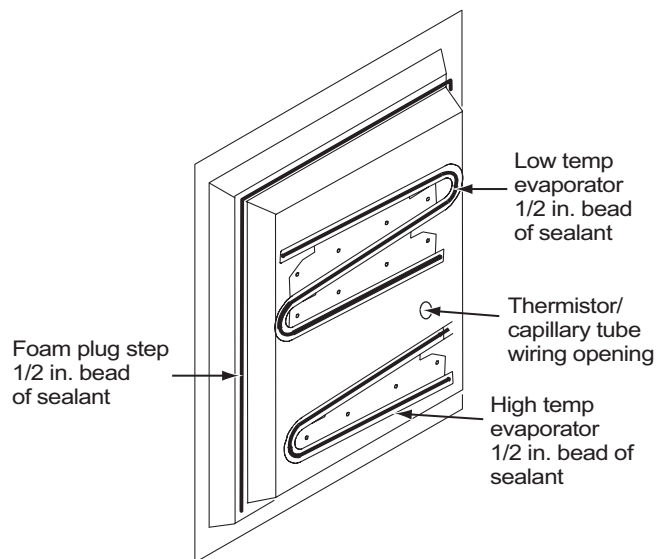

Figure 35. Application of sealant
2. Apply a 1/2" bead of sealant to the replacement cooling unit's low and high temperature evaporators and to the foam plug. See Figure 35.